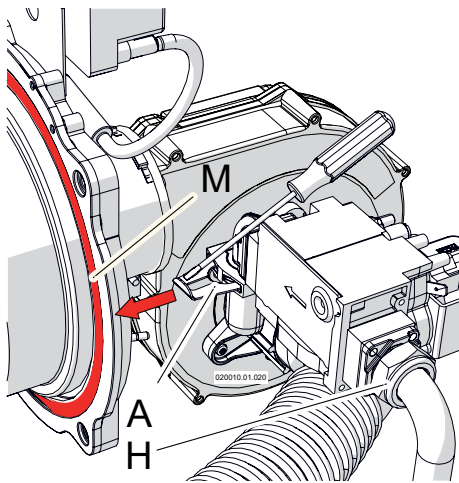

Figure 14-3 Dismantle the gas valve
- 4 - unscrew nut "H" as per Figure 14-3;
- 5 - with the help of a screwdriver, remove spring "A" (see figure 14-3);
- 8 - reinstall the gas valve, paying close attention to the o-ring "L" of Figure 14-4 (see also Figure 17.7) and to the gasket between gas valve and nut "H" of Figure 14-3;
- 9 - Insert again the spring "A" of Figure 14-3;
- 10 - tight nut "H" of Figure 14-3;
- 12 - check for any gas leaks on nut "H" of Figure 14-3;